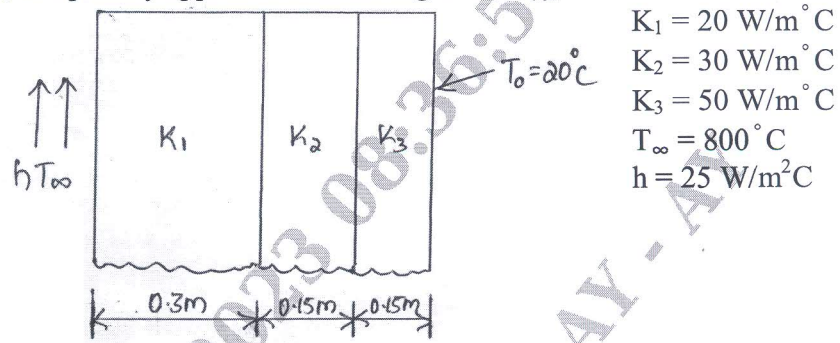

Fig. Q10 (b)
b. Solve for temperature distribution in the composite wall as shown in Fig. Q10 (b), using 1-D heat elements, use penalty approach of handling boundary condition.